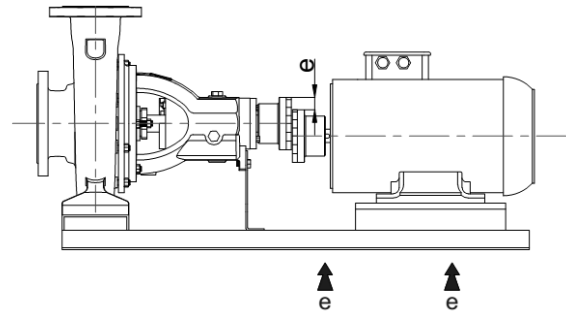
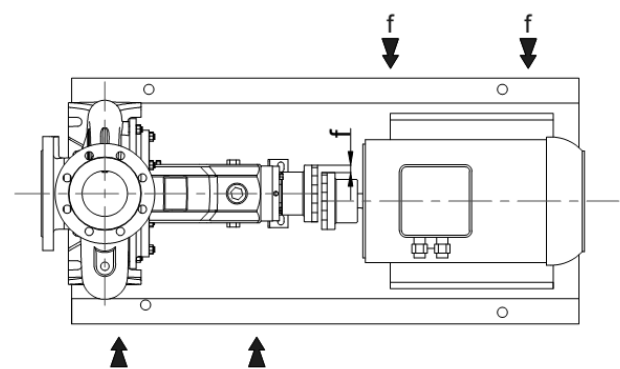

Figure 4: Parallel Axis Misalignment in Vertical Plane and Its Correction
Figure 6: Parallel Axis Misalignment in Horizontal Plane and Its Correction
In order to make the alignment of the coupling, it is required to have at least two pieces of about 10 cm tall, smooth-edged metal parts (e.g. a steel ruler or a gauge stick) and one precision calipers. (Figure 4) (For more precision alignments, special apparatus can be used).
1. Parallel Axis Misalignment (Figure 4-Figure 6)